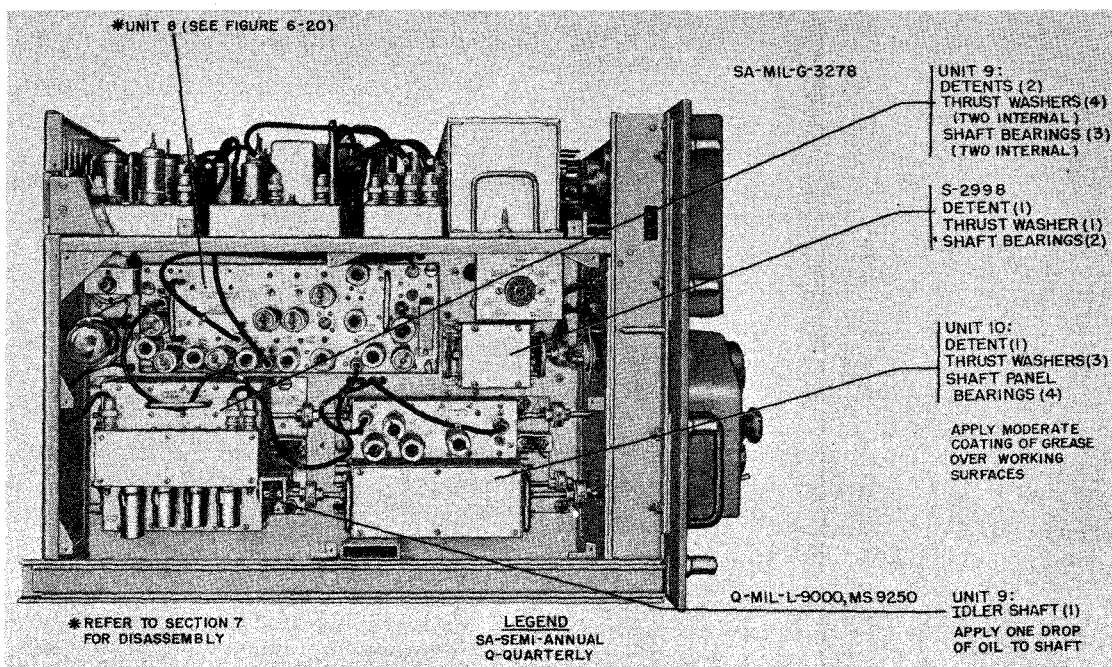

Figure 6-19. RFO, Left Side, Lubrication
(b) LEFT SIDE.—Figure 6-19 shows the left side of the RFO and brings out the lubricating points in unit 9, unit 10, and S-2998. Reference to unit 8 is also included here.
- (f) Figure 6-19
- (g) Figure 6-19